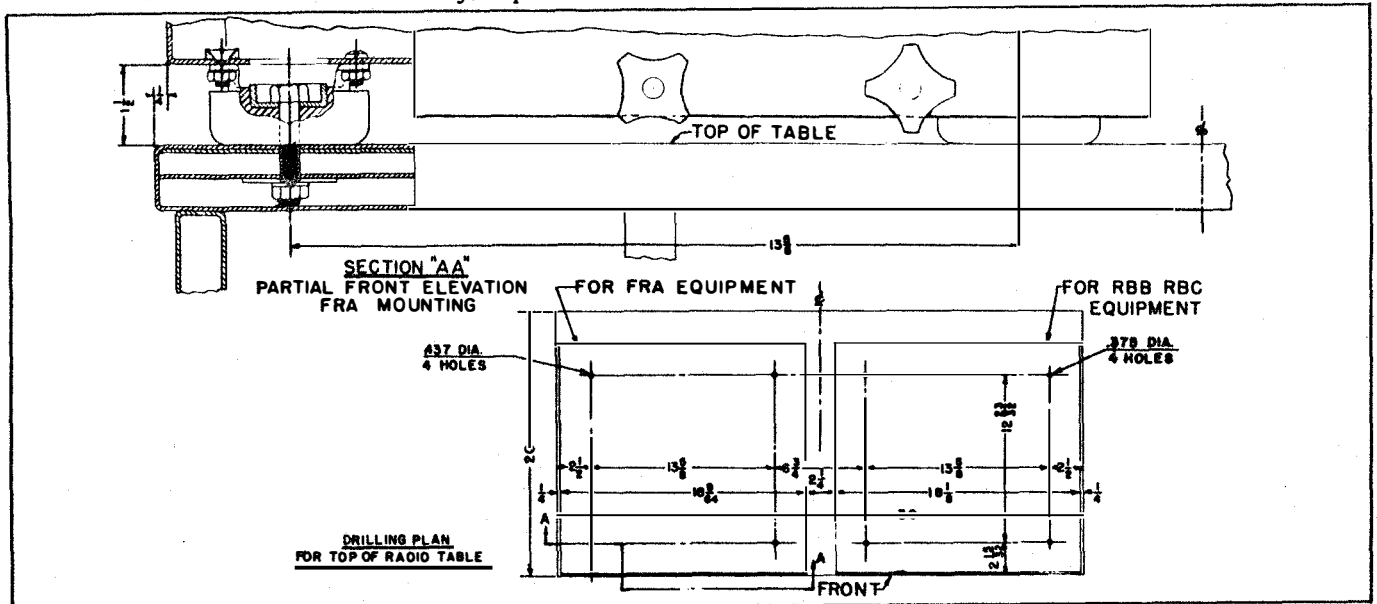

Fig. 3-2 Mounting Details
c. Drill the operating table, using the layout dimensions shown in Fig. 3-2.
d. Bolt the mounting tray to the operating table as shown in Fig. 3-2, using hardware supplied with each Model FRA equipment. Four each of the following are provided: